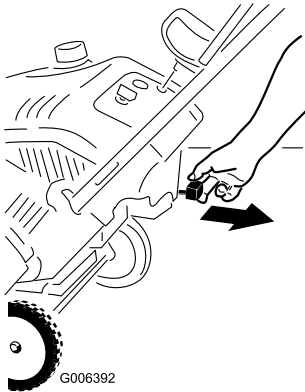
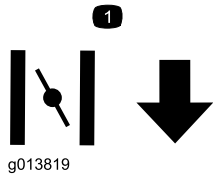

Figure 14
Figure 15
- 2. Pull out the choke lever (Figure 14 and Figure 15).